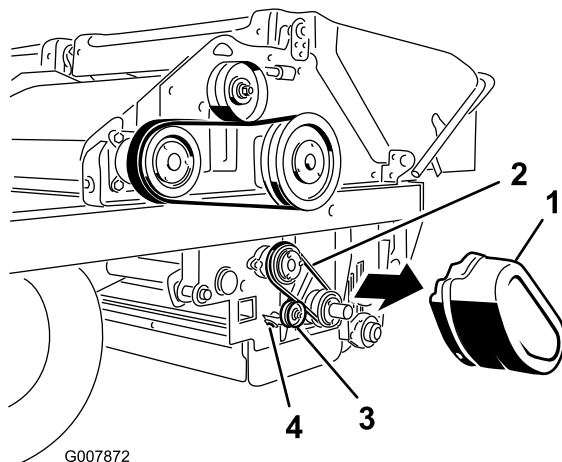

Figure 61
1. Remove the belt cover (Figure 61)
2. Loosen the nut on the idler pulley (Figure 61).
3. Push the idler pulley into the belt and tighten the idler pulley nut (Figure 61).